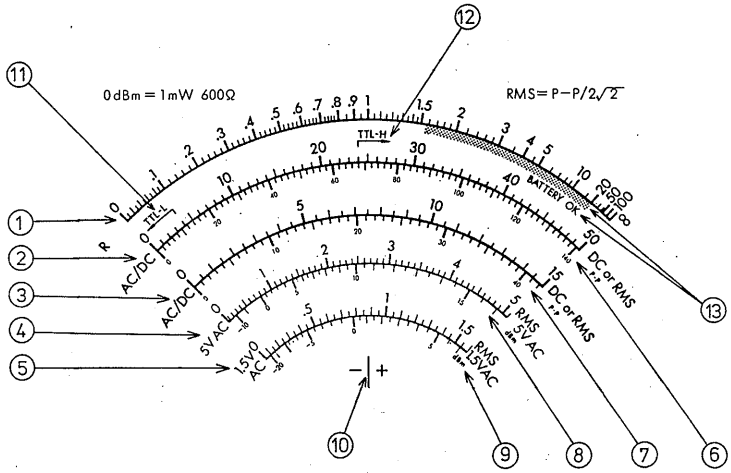
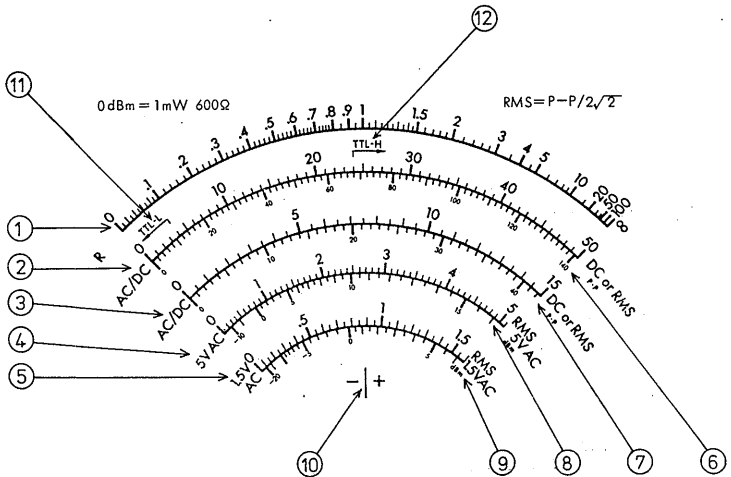

Fig. 3-5
Fig. 3-6
- ② Screw for mechanical zero adjustment of meter
- ③ Knob for ZERO ADJ
- ④ knob for OHMS ADJ
- ⑤ Function selector switch
- ⑥ Range switch
- ⑦ Connector for test prod
- ⑧ Snap (With pulling forward this knob approx. 5mm horizontally, rear cover is removed.)
- ⑨ Power switch (MODEL 107B only)
- ⑩ Pilot lamp (MODEL 107C only)
- ⑪ Jack for AC adaptor (MODEL 107B only)
3.1.2 Scale (Refer to Fig. 3-5 and Fig. 3-6.)
- ① R scale for ohmmeter (red)
- ② AC/DC, DC or RMS 50V scale for voltmeter (black)
- ③ AC/DC, DC or RMS 15V scale for voltmeter (black)
- ④ 5V AC, RMS 5V AC scale for voltmeter (blue)
- ⑤ 1.5V AC, RMS 1.5V AC scale for voltmeter (blue)
- ⑥ p-p 140V scale below ② (black)
- ⑦ p-p 42V scale below ③ (black)
- ⑧ dBm (16 dBm) scale below ④ (blue)
- ⑨ dBm (6 dBm) scale below ⑤ (blue)
- ⑩ Polarity indication for zero center meter